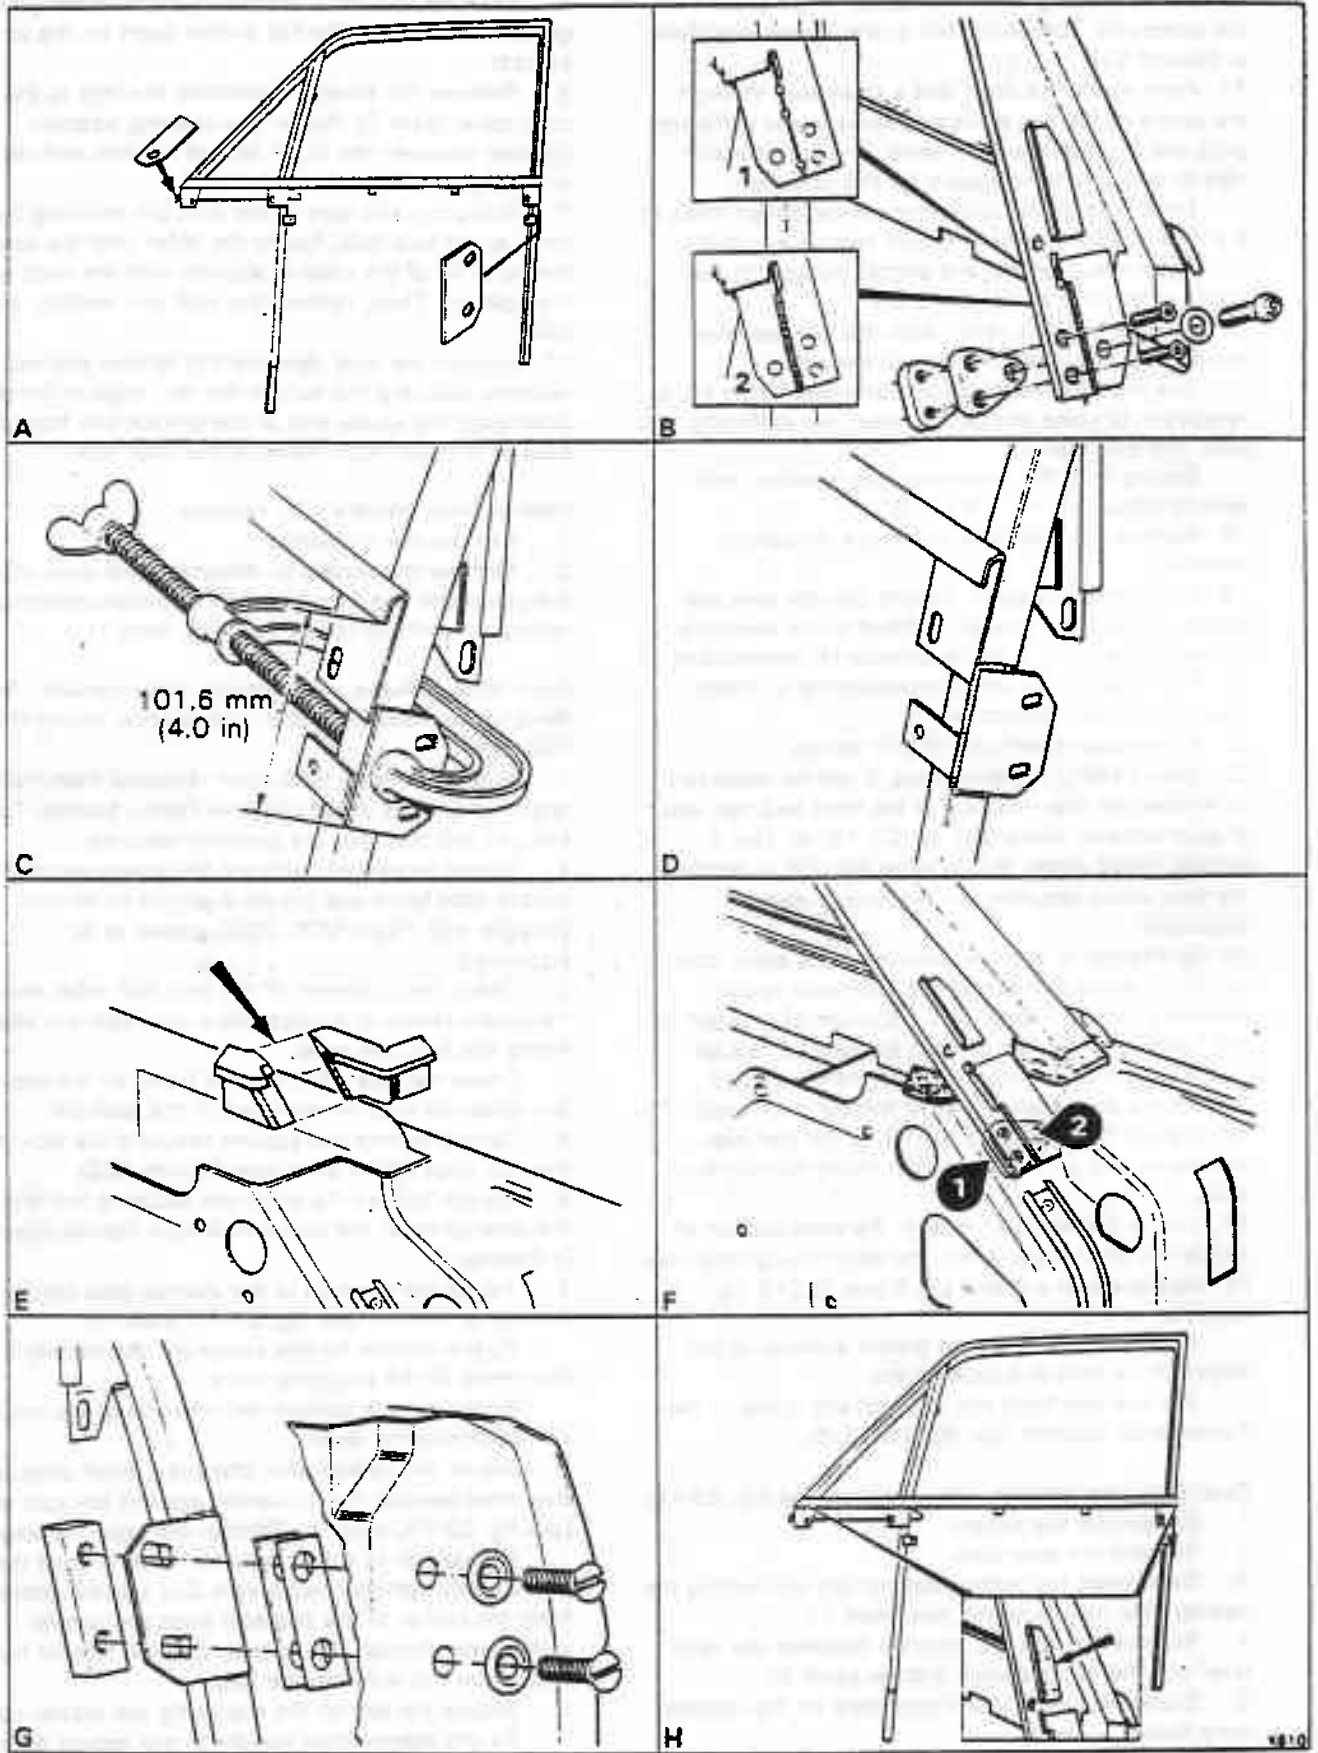

Fig. S3-15 Window frame modification
shown in figure S3-15, A.
4. Using the setscrews, spacer, and tapping block, temporarily secure the new extension plate in position on the front of the frame (see fig. S3-15, B).
6. Position and clamp the new stiffening plate onto the rear leg of the frame (see fig. S3-15, C). Ensure that the elongated holes in the stiffening plate are facing uppermost. Also ensure that the back edge of the plate is positioned parallel with the radius of the frame leg edge.
9. On the front of the frame, tack weld the underside of the extension plate to the frame (see fig. S3-15, B, inset 1).
Remove the setscrews, spacer, and tapping block then tack weld the lower end of the plate. Finally, run weld along the length of the underside of the plate (see fig. S3-15, B, inset 2). Try to ensure that the weld is smooth with no projections. If necessary, grind the weld on the underside and top face, to achieve a flush fitting of the window frame to door face.
10. On the rear of the frame, weld the plate in position as shown in figure S3-15, D then remove the clamp.
12. Check that the window frame front leg fits flush on the door panel. If it does not, it may be necessary to remove a portion of the frame front seal (see fig. S3-15, E).
16. Position the front tapping block and spacer then secure with two countersunk socket screws (see fig. S3-15, F, item 1).
Secure with the setscrews, cup washers, and tapping block (see fig. S3-15, G).
22. Before fitting the door seals, it will be necessary to remove the seal retainers at the front and rear waist of each window frame (see fig. S3-15, H). Use a carbide tipped cutter or a suitable flat drill to remove the spot welds securing the retaining plates.